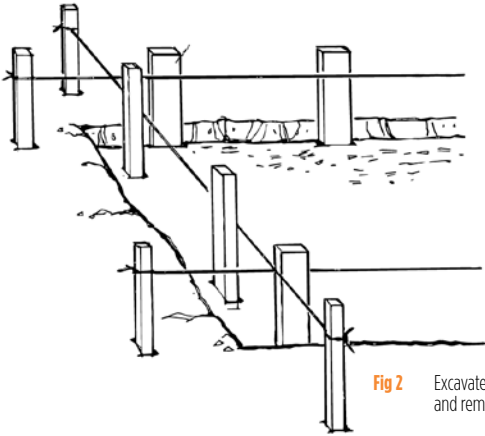

Fig 2 Excavate 150mm larger all round and remove the top soil
- Determine the depth of the concrete and dig out the topsoil to the appropriate level, ensuring that the excavation is dug to a size of at least 150mm larger all round than the finished slab to allow room for the formwork (see Fig 2).